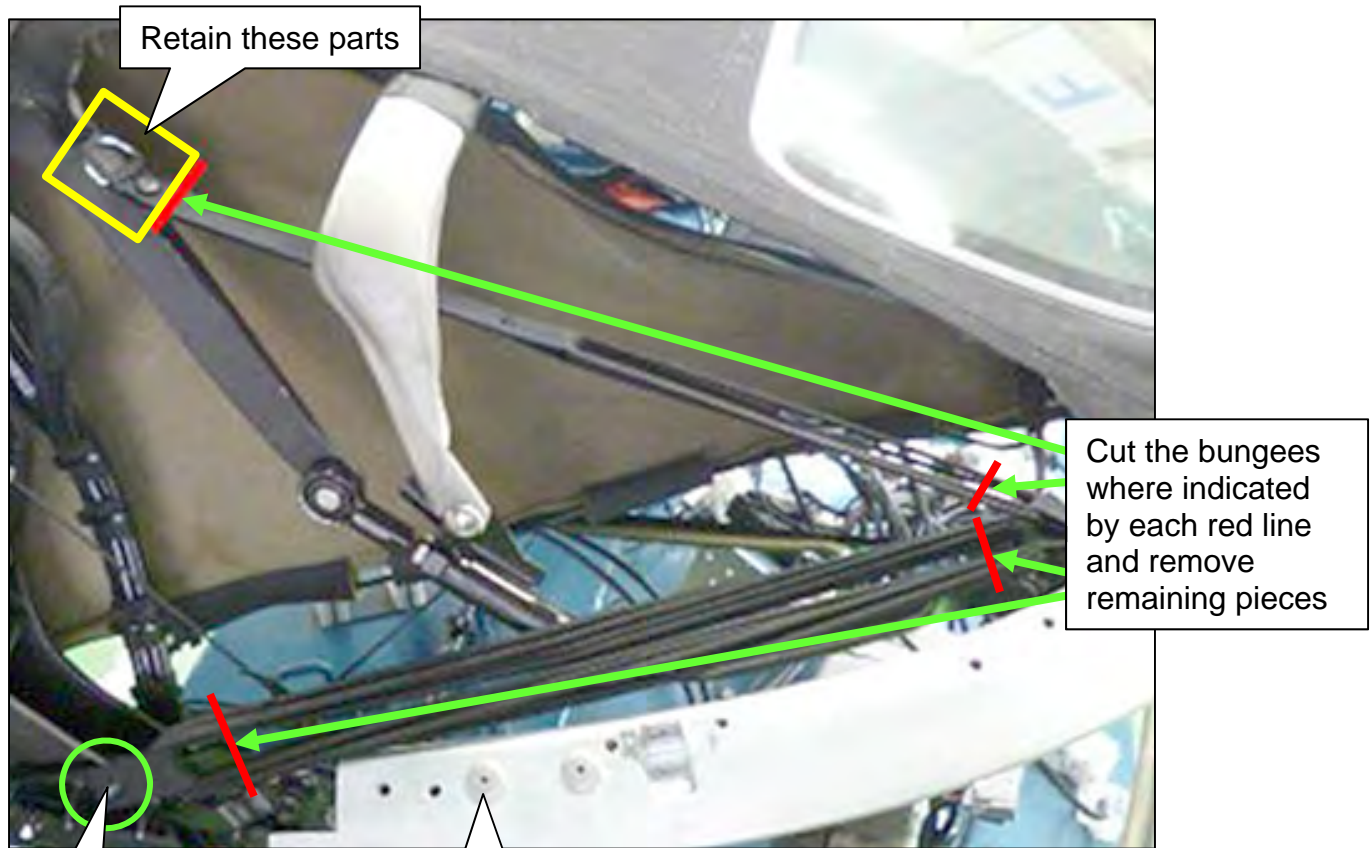

Figure 11
10. Cut through the bungees where indicated in Figure 11 with an appropriate tool.
12. Remove the star screw indicated in Figure 11 that retains the bungee strap, and place the screw aside.
HINT: Refer to Figure 11 for the location of the middle rivet.